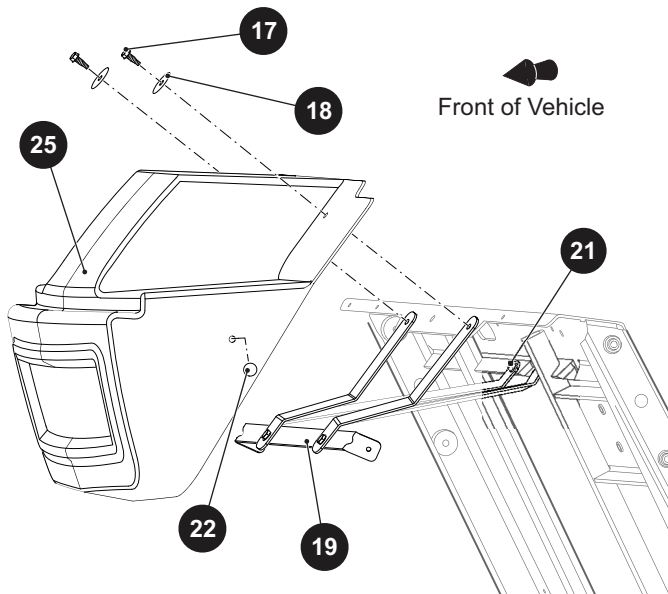

Fig. 9 Fascia
3. Remove the ratchet rivets (22) securing the sides of the fascia (25) to mounting bracket (19) (Ref Fig. 9).
4. Remove the bolts (17) and washers (18) securing the fascia to the frame and set the horn to the side.
5. Remove the bolts (21) securing the mounting bracket to the frame.